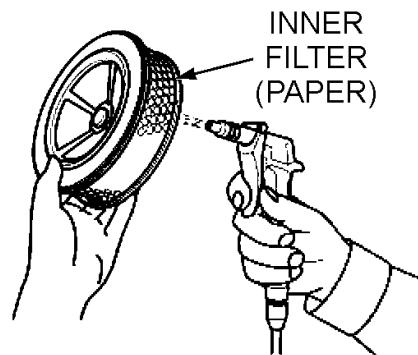

Figure 43. Cleaning Inner Paper Filter
5. Tap the paper filter element (Figure 43) several times on a hard surface to remove dirt, or blow compressed air [not exceeding 30 psi (207 kPa, 2.1 kgf/cm²)] through the filter element from the air cleaner case side. **NEVER** brush off dirt. Brushing will force dirt into the fibers. Replace the paper filter element if it is excessively dirty.